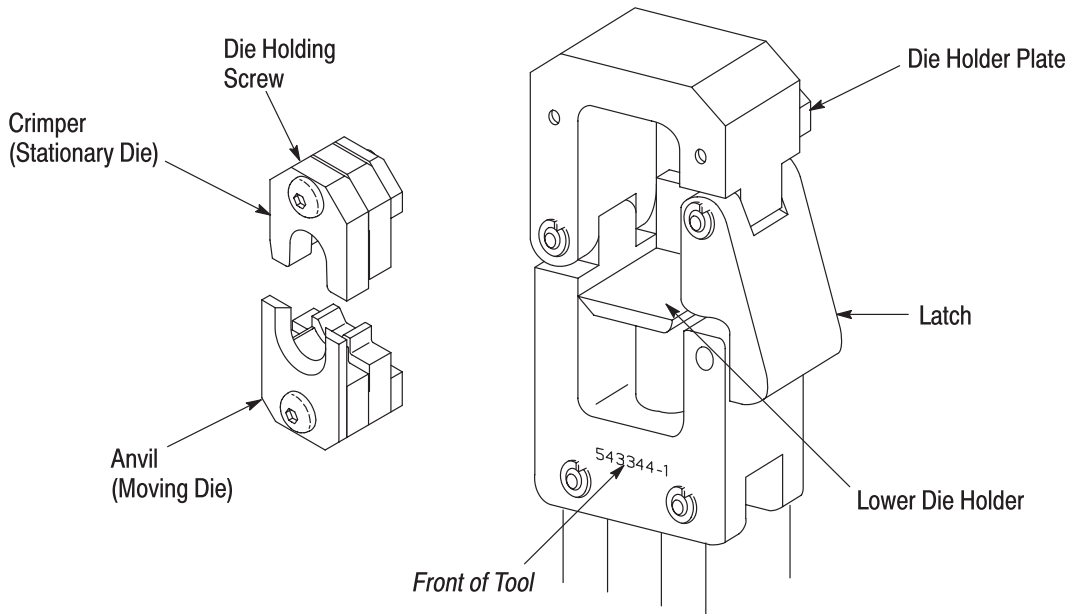

Figure 2
**3.1. Installation** (Refer to Figure 2)
*Each set of dies consists of an anvil (moving die) and a crimper (stationary die). Most moving dies have square corners and the stationary dies have chamfered corners. Refer to Figure 2. Exceptions to this feature will be shown on the instruction sheet packaged with the dies.*